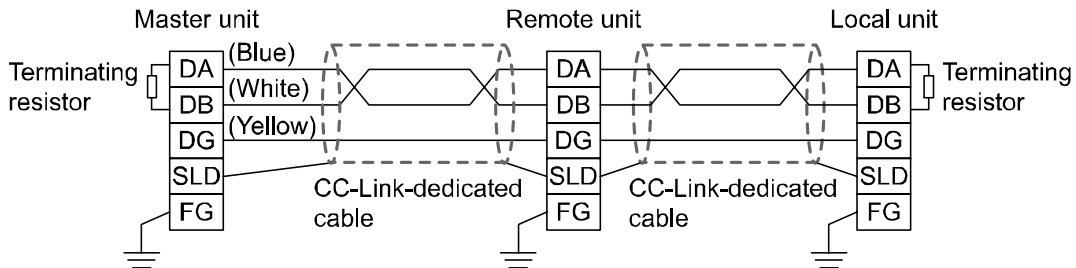

Figure 2
(2) A bus termination is required at both ends of CC-Link bus segment as shown in the Figure 2. A cable should be CC-Link-dedicated one.